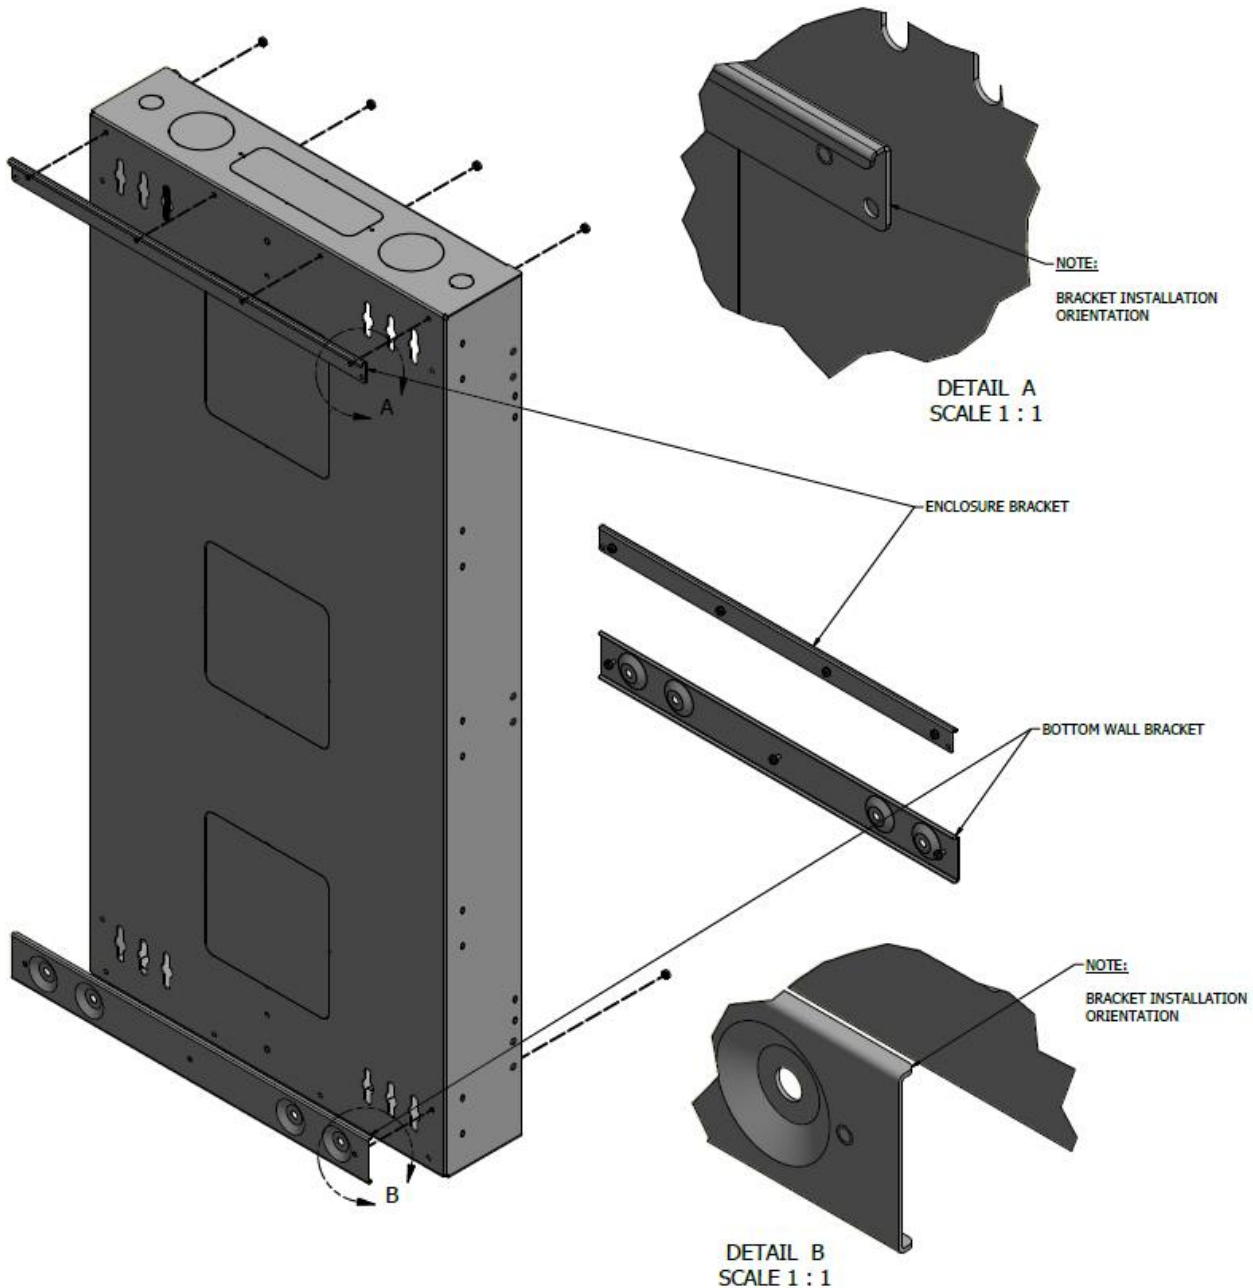

Figure 3
Step 1a: Install the enclosure bracket and bottom wall bracket to the back of the enclosure using the supplied hardware in the kit as shown in Figure 3.